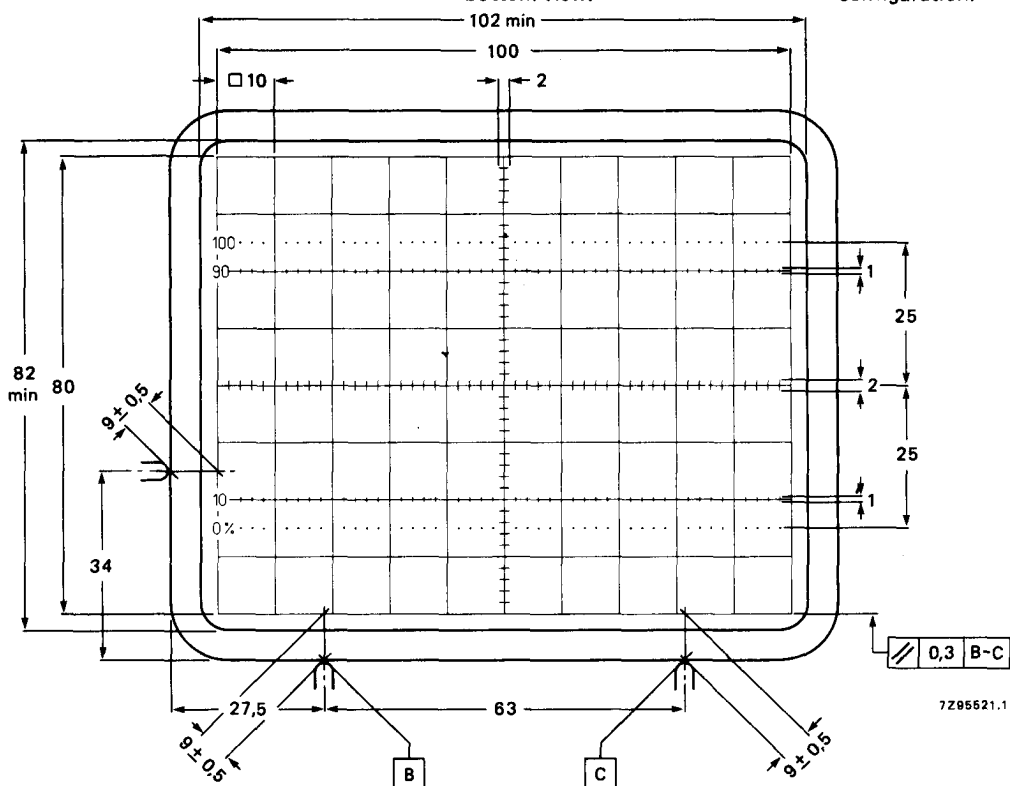

Fig. 5 Front view of tube with internal graticule, type 123. The faceplate reference points are used for aligning the graticule with the faceplate.
Internal graticule	type 123; see Fig. 5
The tube can be mounted in any position. It must not be supported by the socket and not by the base region alone. The reference points on adjoining edges of the faceplate (see Fig. 5) enable the tube to be mounted accurately in the front panel, thus providing optimum alignment of the internal graticule.
4. Reference points on faceplate for graticule alignment (see Fig. 5).
1. As the frit seal is visible through the faceplate, and not necessarily aligned with the internal graticule, application of an external passe-partout with open area of max. 102 mm x 82 mm is recommended. The internal graticule is aligned with the faceplate by using the faceplate reference points (see Fig. 5).